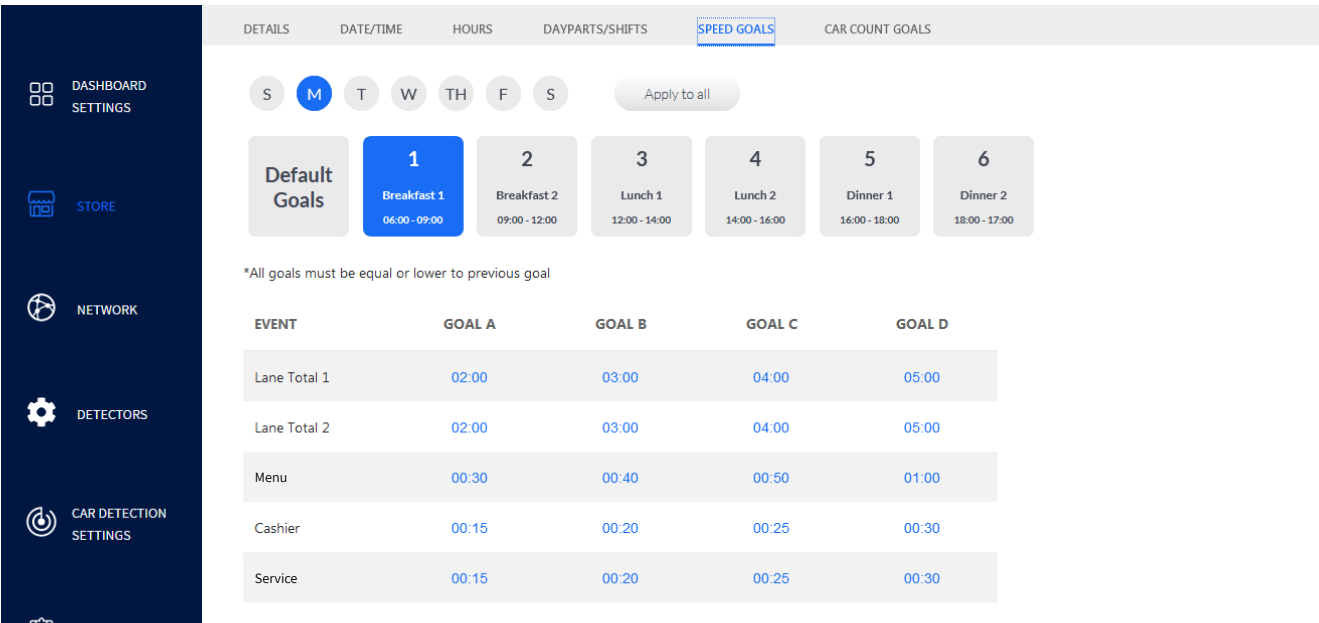

Fig. 4.5
**Example:** Fig. 4.5 shows days of the week followed by dayparts for that day. The table shows events with four different goal values assigned to each of four letters (A, B, C, & D). There are five events listed in the **EVENT** column for this table: Lane Total 1, 2, Menu, Cashier, Service (two lane total events plus three detection point events).